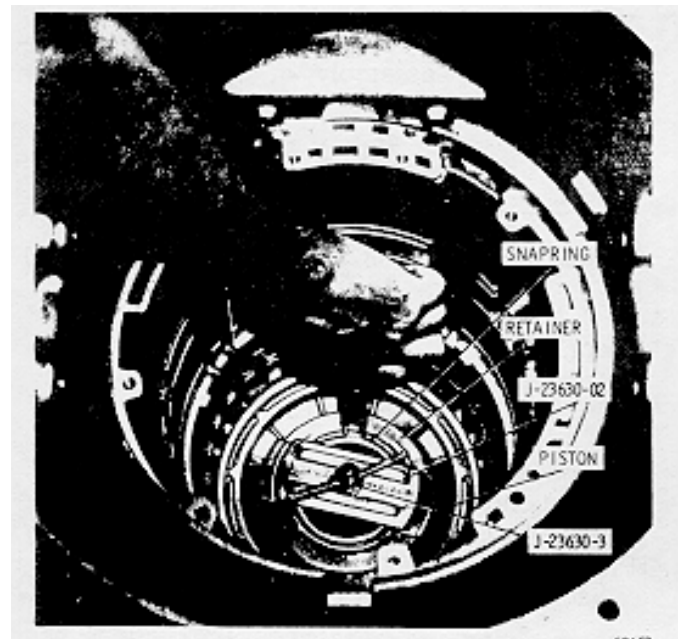
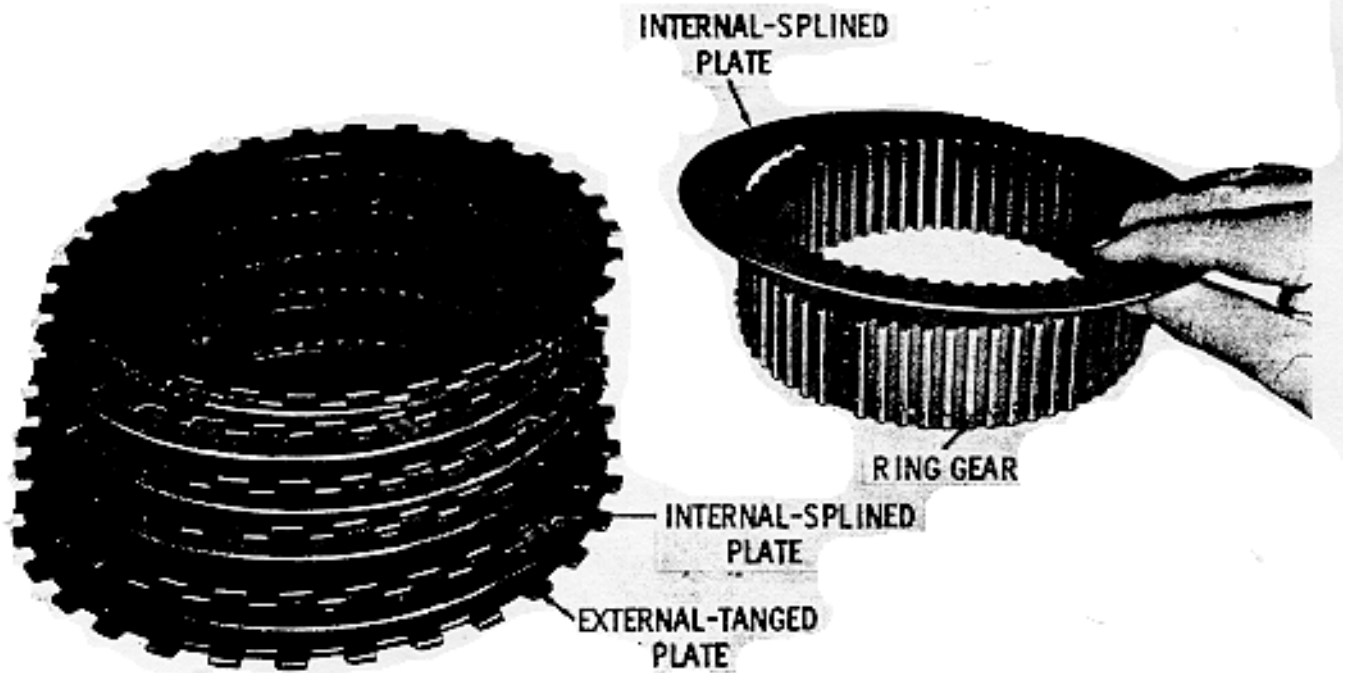

Fig. 7-2. Installing first clutch spring retainer snapping
Fig. 7-3. Installing first clutch plates onto rear ring gear
(5) Install twenty-two springs into the recesses in the piston. Install the spring retainer onto the springs (fig. 7-2).
(6) Lay the spring retainer snapping on the spring retainer (fig. 7-2).
(7) Install spring compressor assembly J-23630-1 into the rear bearing bore of the transmission housing (fig. 7-2). Check the springs for proper alignment.
(8) Tighten the wing-nut on the spring compressor until the spring retainer clears the snapping groove in the housing hub. Install the snapping into its groove. Remove the spring compressor.
(11) place the first ring gear on a work table, extended teeth down. Beginning with an internal-splined plate, alternately install six internal-splined and six external-tanged clutch plates onto the rear ring gear (fig. 7-3).